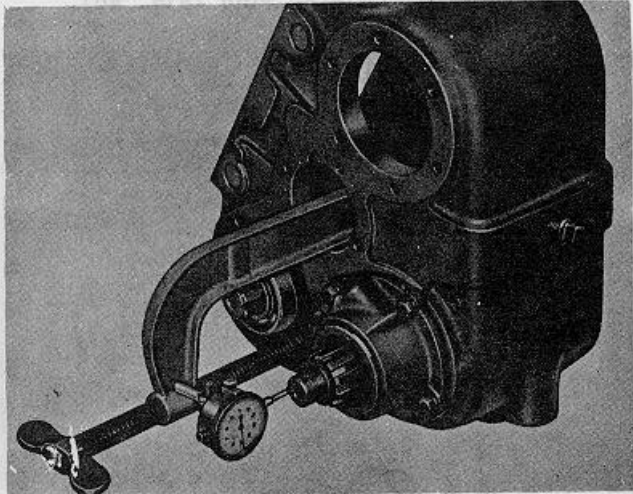

Fig. 30.
15. Rotate shaft to seat bearings. Mount a dial indicator against rear end of shaft to check amount of end play in assembly (Fig. 30). Remove sufficient shims from under front bearing cap to arrive at an adjustment of zero end play and zero preload.